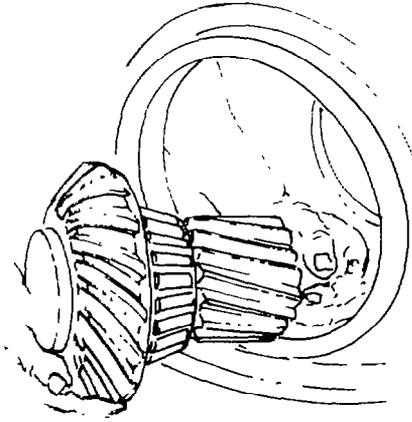

Fig. 325 — Installing Helical Pinion Shaft
- o. Install the helical pinion shaft assembly into the carrier housing as shown in fig. 325, and position a block of wood into the housing to support the shaft.